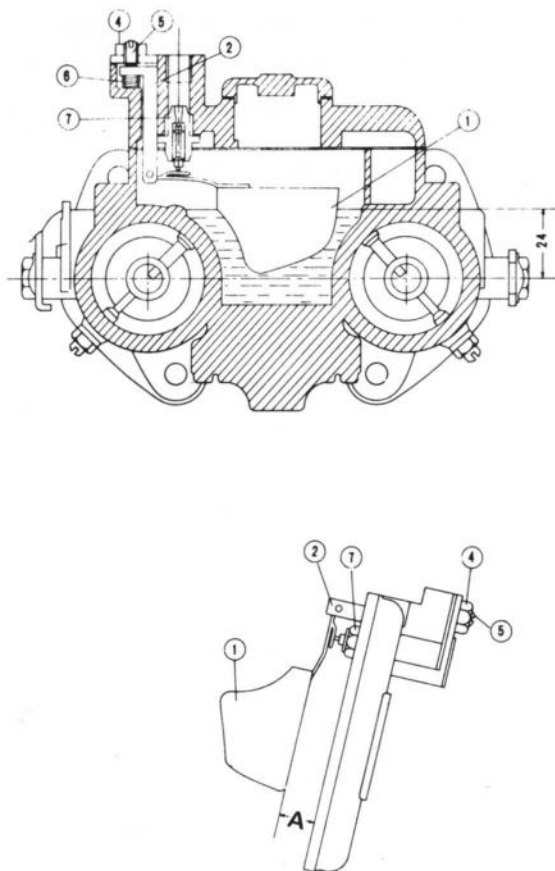

FIG. 21
- A) Hold the float chamber cover as shown in Fig. 21 so that the float arm just rests on the needle valve without compressing the needle valve spring. In this position, the height from the surface of the float chamber cover to the top surface of the float (dimension "A") should be 12.0 – 12.5 mm.